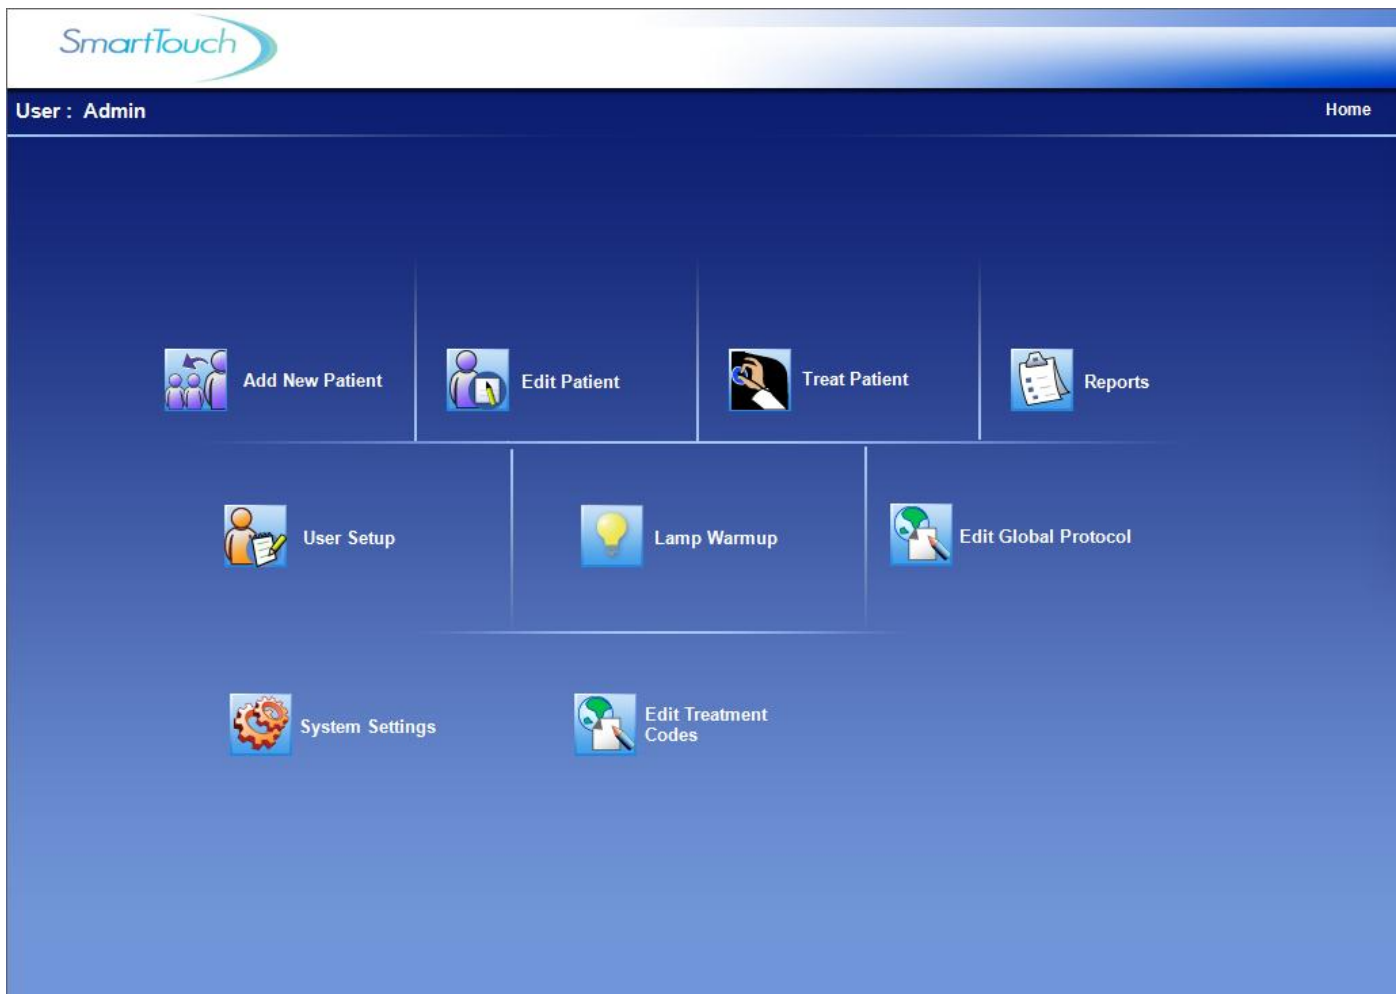

Figure 10 – Main Menu Screen for STUV
4. Retype the new password, and then tap **Save** once. The Main Menu screen will be displayed (See **Figure 10 – Main Menu Screen**), and the system administrator setup is complete
6. When the loading is completed, and the unit is properly linked with SmartTouch™, the Main Menu screen will be displayed (See **Figure 10 – Main Menu Screen for STUV**).
1. Login to the SmartTouch™ control system and tap the **User Setup** button once from the Main Menu (See **Figure 10 – Main Menu Screen**). The **Select a Username** screen will be displayed.
2. Type the chosen user password in the **Password** field using the keyboard at the bottom of the display, and then tap the **Logon** button once. The Main Menu screen will appear (See **Figure 10 – Main Menu Screen**), indicating that the user login is complete.